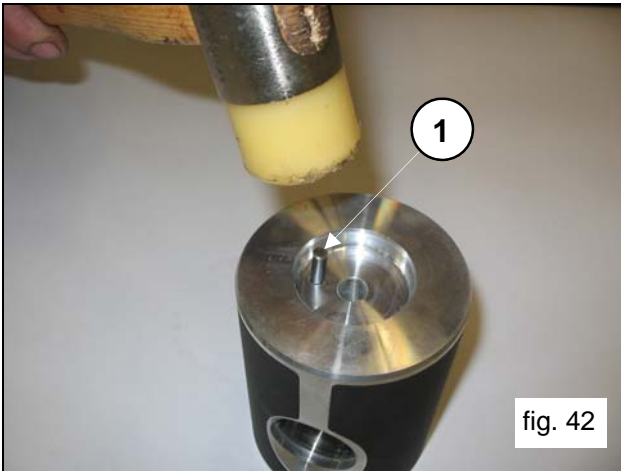
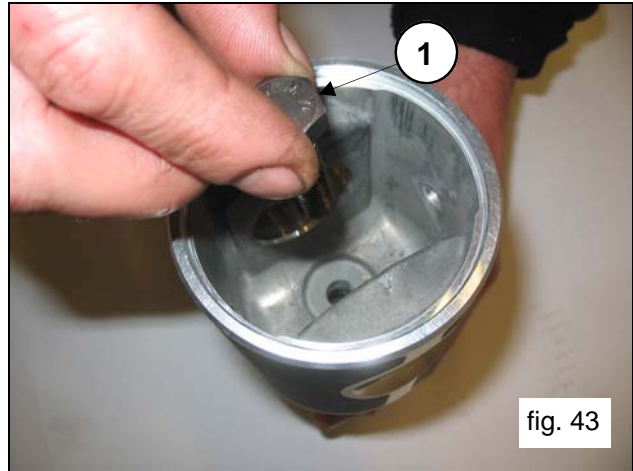

fig. 42
fig. 43
Insert the elastic pin Ø5 in its hole on the piston guide (pos.①, fig.42) and join the rod to the piston guide by means of M10x35 screws (pos.①, fig.43).